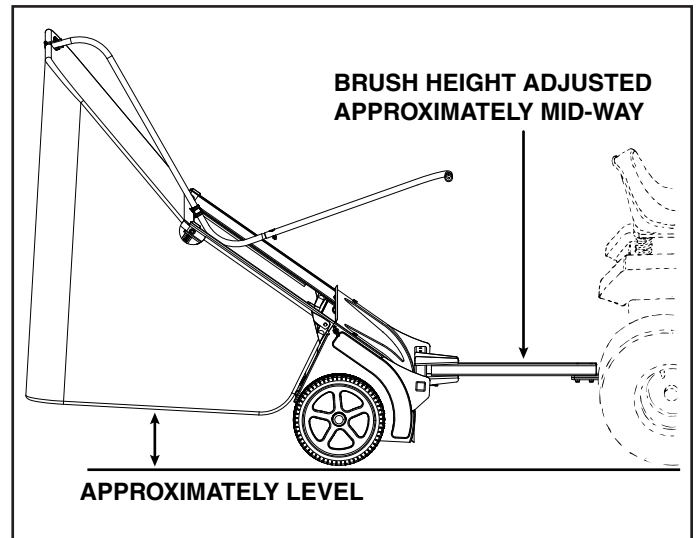

FIGURE 19
**IMPORTANT:** To obtain the best performance from your sweeper, arrange the spacers so that the sweeper bag is approximately level with the ground as shown in figure 19.